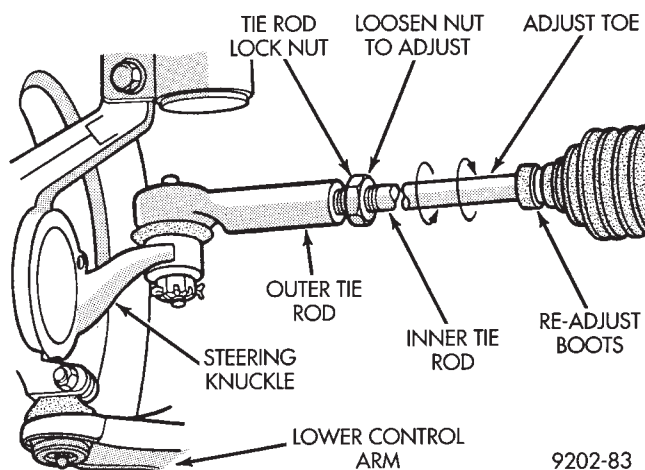

Fig. 3 Front Wheel Toe Adjustment
- (1) Prepare vehicle as described in the Pre-Alignment procedure.
- (2) Center steering wheel and hold with steering wheel clamp.
- (3) Loosen tie rod locknuts. Rotate rods to align toe to specifications (Fig. 3).